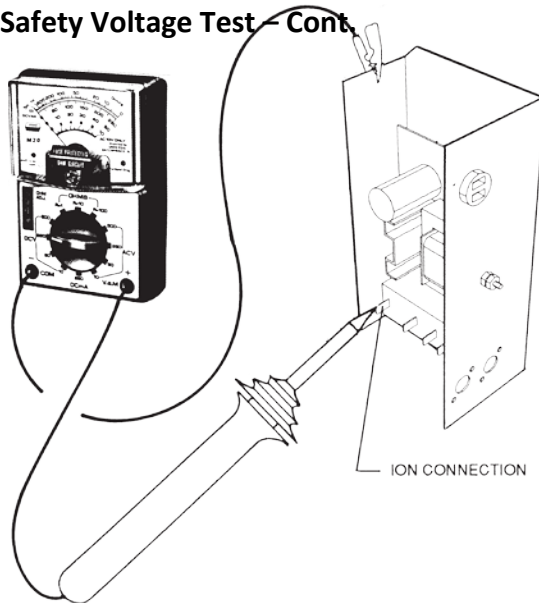

Figure 4-12-1
- a) Ionizer Voltage Test - Test the voltage from the “ION” Connection point to ground (Refer to Figure 4-12-1). If there is voltage do not proceed. Refer to the Troubleshooting Section of this manual. If there is no voltage proceed to the Collector Voltage Test.